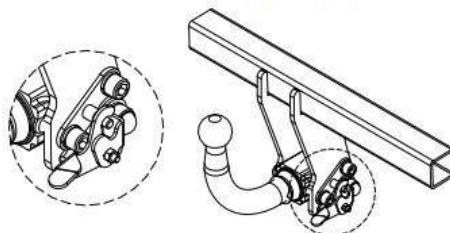

Fig. 3
4. Correctly mounted body shows figure 3.